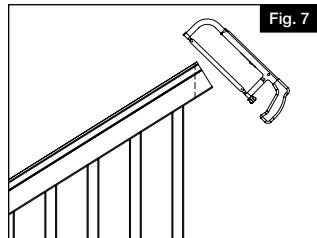

Fig. 7
- d. Slide bottom rail in between posts and rest on top of wood spacer blocks (Fig. 7).
Remove clamped stair kit from posts. Cut along all four angled marks on rails (Fig 7).
Add two screw covers for both top and bottom brackets and add two screw caps for each top rail bracket (Fig 7).